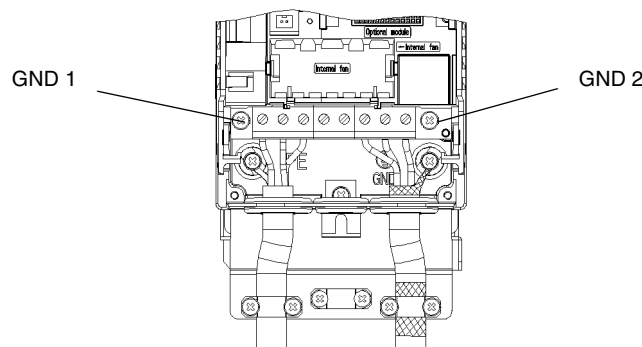
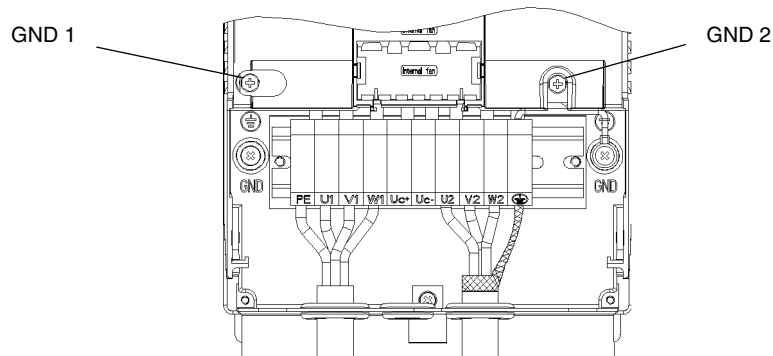

Figure 15 Removing the grounding screws from frame size R1 and R2 frequency converters.
Figure 16 Removing the grounding screws from frame size R3 and R4 frequency converters.
**If the supply network is floating (IT network) remove both grounding screws otherwise you may cause danger or damage the unit.** Location of the grounding screws is shown in Figure 15 and Figure 16.